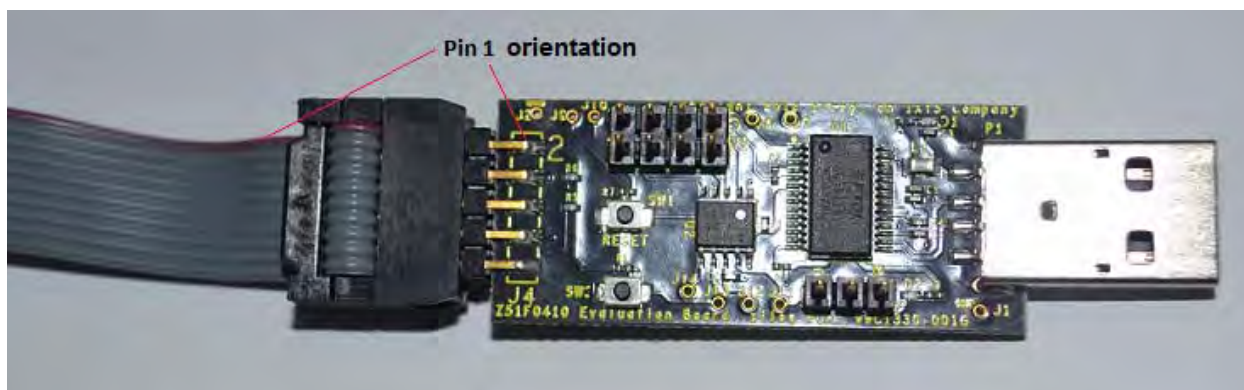

Figure 12. Connecting the 10-Circuit Cable to the Board
3. Connect the other end of the 10-circuit cable connector to the Z51F0410 Board's J4 and J3 connectors. Pin 1 of the cable connector is indicated by a red stripe, as shown in Figure 12.